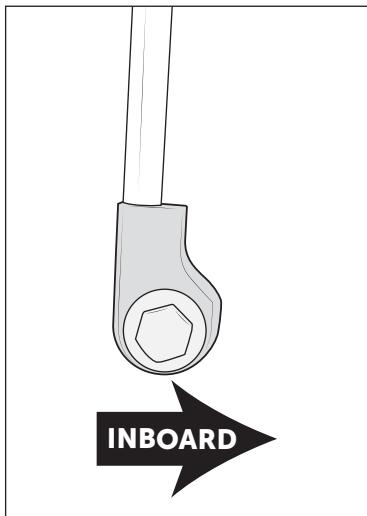
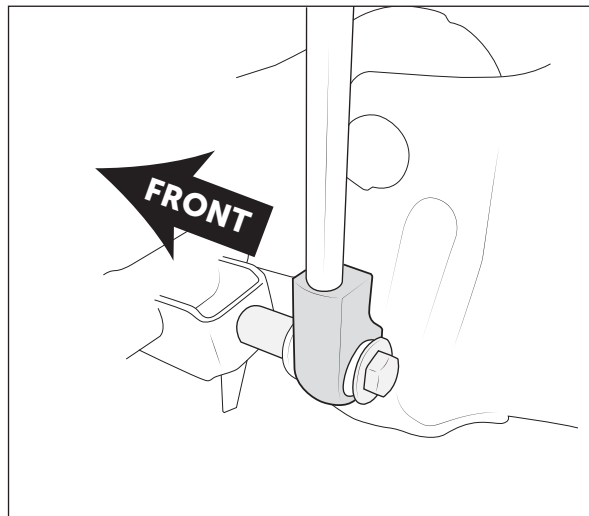

Figure 3
Figure 4
2. Install lower shock bushing to axle. Shock bushing has offset end to clear radius arm hardware, bushing must be oriented to be offset inboard as shown (fig. 3). Once in correct orientation, place washer on provided M14x120mm bolt and feed through the shock bushing from the rear. Bushing does NOT go between the mounting brackets like factory orientation. Put provided crush sleeve in factory bushing location, place shock bushing against back face of rear bracket, and feed the bolt through the rear bracket, crush sleeve, and front bracket. Install provided M14 flange nut to the front and torque hardware to 100 ft-lb. (fig. 4).